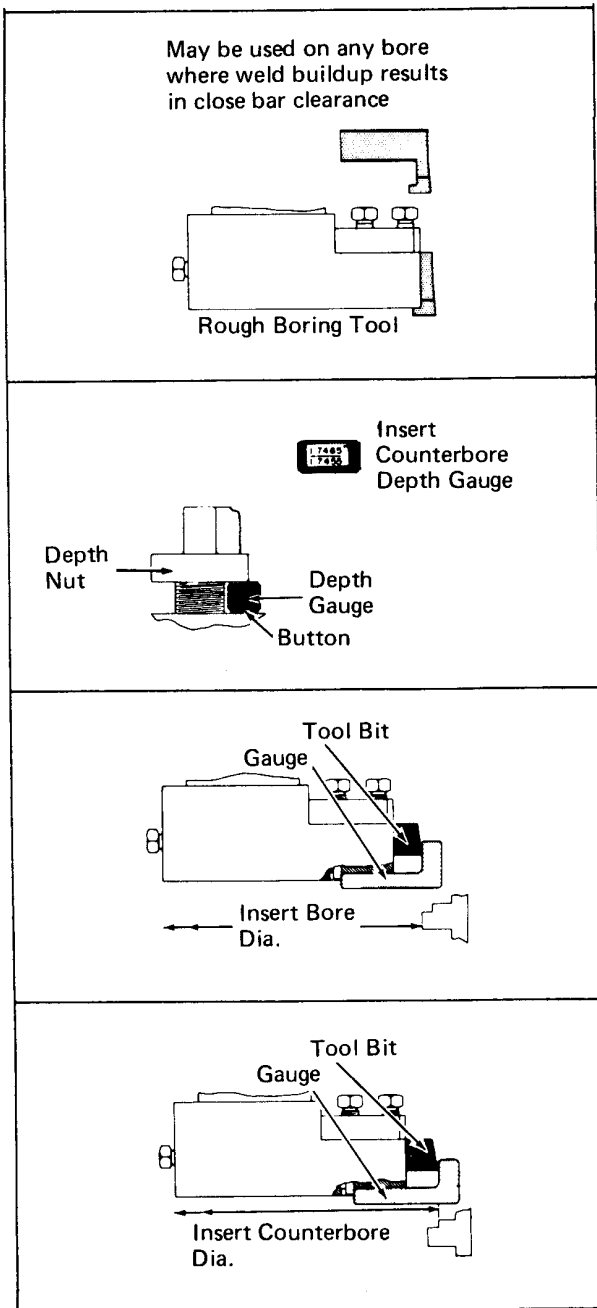

Fig. 2 - Lower Deck Boring Bar Machining Details
Fig. 2 shows the feed screw depth nut gauge and its application. This gauge is used to check the location of the feed screw depth nut in relation to the top of the feed screw and is furnished as a means of checking setup of the fixture. The feed screw depth nut adjustment should not change, as it is pinned to the feed screw, but should be checked.
A rough bore cutting tool, Fig. 2, has been developed for the purpose of cutting out this excess metal so the tool holder will clear it. Insert the cleanup cutter into the tool holder as far as it will go. It may be necessary to back off the tool bit feed screw to allow the tool bit to rest against the body of the tool holder. After the
2. To set the tool bit for the finish bore, apply an unused tool bit to the holder. Insert gauge in place in the slot at the bottom of the tool holder so the end contacts the locating pin as shown in Fig. 2. Carefully slide the tool bit out until it just contacts the radius of the inner face of the gauge. Tighten tool bit holding screws securely. This sets the tool bit for the finish diameter.
2. Depth of the counterbore is limited by using the depth gauge under the feed screw depth nut as shown in Fig. 2.
4. The finish cut is then made by feeding down until the depth nut contacts the depth gauge. For the finish diameter, the tool bit gauge is placed in the tool holder as shown in Fig. 2, and the tool bit is brought out to just contact the radius of the inner face of the gauge.